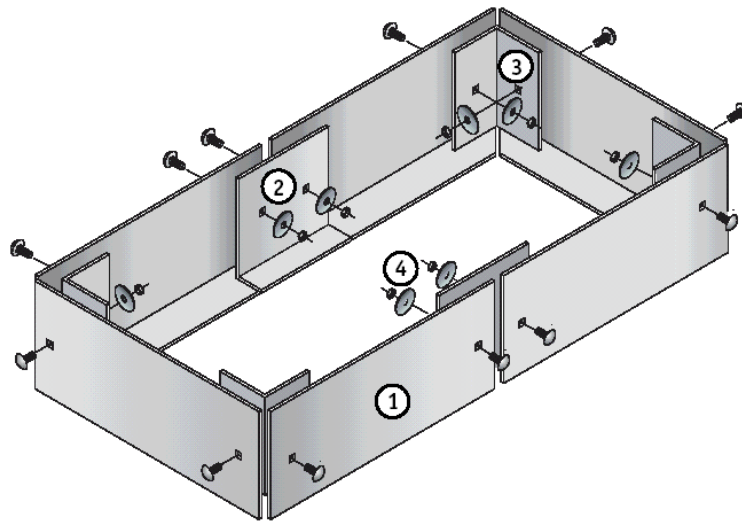

Figure 3.1 – Spill Control Barrier Components
- 5.1 Lay out the Barrier Strips on the floor around the battery stand location in the order demonstrated in Figure 3.1 and lightly bolt the pieces together using carriage bolts, washers, nuts and the appropriate connector plates. Position the barrier around the battery stand location to provide equal clearances on all sides between the battery stand and the barrier, Note that the horizontal flange on all of the barrier strips faces the battery stand (Figure 3.1). This orientation is important both for barrier clearance and liquid-tight integrity.